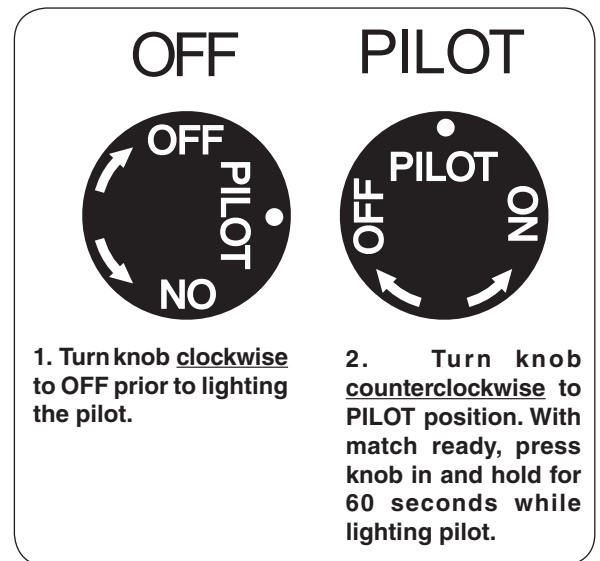

Fig. 35-1 Control knob detail (OFF, PILOT)
1. Locate the valve on the side of the unit. Push in the gas control knob slightly and turn clockwise to **OFF** (Fig. 35-1).
**Allow five (5) minutes for any gas in the unit to dissipate. IF YOU SMELL GAS, SEE STEP B ABOVE.** If you don't smell gas, go on to step 2.
2. Turn the control knob counterclockwise to **PILOT** (Fig. 35-1). Push the control knob **firmly and fully** in and hold. Hold a long fireplace match or lighter near the thermocouple to light the pilot. Continue to hold the control knob in for approximately 60 seconds after the pilot is lit, then release the knob. The pilot will remain lit.